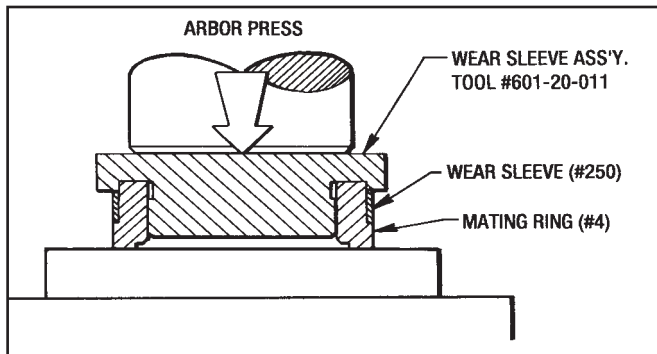

Figure 9.9 - Installing Wear Sleeve (#250) on Mating Ring (#4)
6. Apply Sealant (Loctite #271) on the I.D. of the Wear Sleeve (#250) and press the Wear Sleeve (#250) onto the Mating Ring (#4). (See Figure 9.9).
8. Place tape over the keyway and slide the Bearing Retainer (#7) over the Input Shaft, being careful not to damage the lip of the Oil Seal (#31). Attach the Bearing Retainer with (6) Screws (#63).